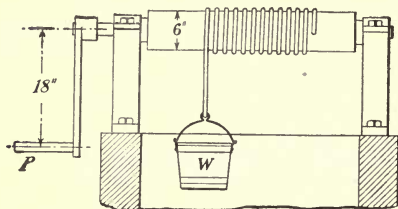

FIG. 24.—Hoist.
1. Figure 24 shows a common winch or hoist which is a good illustration of the wheel and axle; the crank is the wheel and the
3. If 26 ft. 8 in. of rope were wound up on the drum in Fig. 24, how many turns and parts of turns did the crank  $P$  make? (Take  $\pi = \frac{22}{7}$ .)
4. In Fig. 24, what is the ratio between the weight lifted and the force applied?